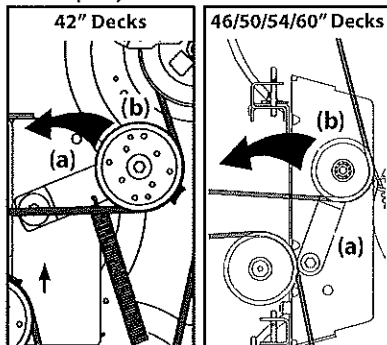

Figure 42
- a. Using the deck lift handle or the deck lift pedal and knob, raise the deck to the position that provides the most horizontal run of the belt between the deck idler pulleys and the PTO pulley on the bottom of the engine. See Figure 42.
- b. Working from the middle of the tractor, pivot the idler bracket (a) and movable idler pulley (b) rearward just far enough to lift the belt up and over the spindle pulley. See Figure 42.